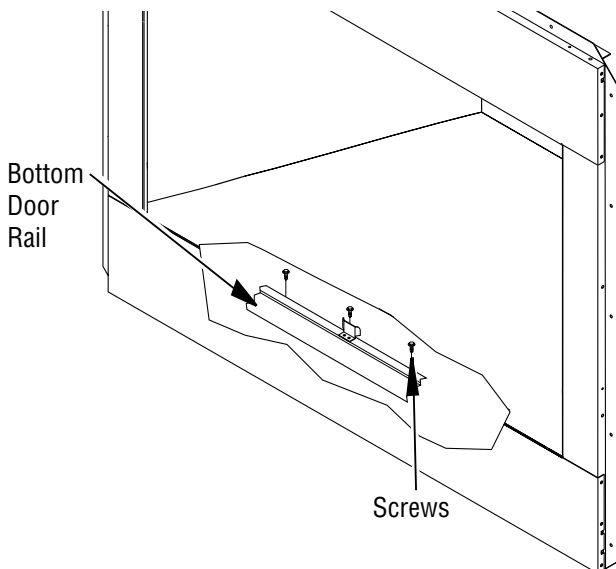

Figure 37 - Installing Bottom Door Frame
3. Remove three screws located at front of firebox (see Figure 37).